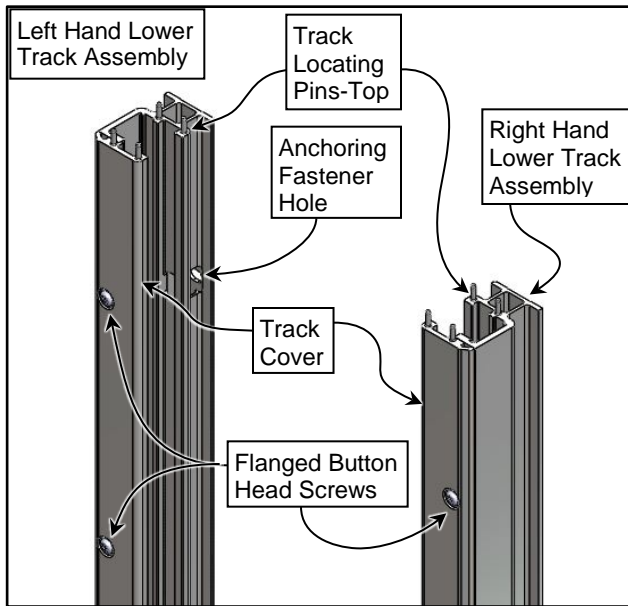

Figure 22
9. Identify each Lower Track Assembly as shown. The track opening must face the door's center as shown. Select the assembly for mounting in the side column currently being installed. (See Figure 22)